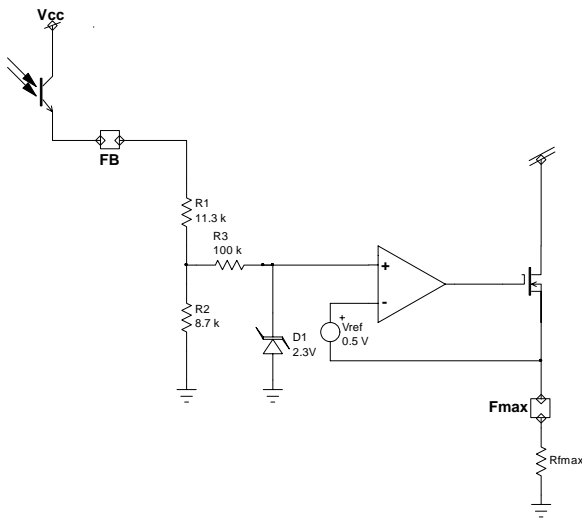

Figure 32. The OPAMP Arrangement limits the VCO modulation signal between 0.5 and 2.3V
The designer needs to program the maximum switching frequency and the minimum switching frequency. In LLC configurations, for circuits working above the resonant frequency, a high precision is required on the minimum frequency, hence the  $\pm 3\%$  specification. This minimum switching frequency is actually reached when no feedback closes the loop. It can happen during the startup sequence, a strong output transient loading or in a short-circuit condition. By installing a resistor from pin 4 to GND, the minimum frequency is set. Using the same philosophy, wiring a resistor from pin 2 to GND will set the maximum frequency excursion. To improve the circuit protection features, we have purposely created a dead zone, where the feedback loop has no action. This is typically below 1.2 V. Figure 32 details the arrangement where the internal voltage (that drives the VCO) varies between 0 and 2.3 V. However, to create this swing, the feedback pin (to which the optocoupler emitter connects), will need to swing typically between 1.2 V and 5.3 V.
As shown on figure 32, the internal dynamics of the VCO control voltage will be constrained between 0.5 V and 2.3 V, whereas the feedback loop will drive pin 6 (FB) between 1.2V and 5.3 V. If we take the default FB pin excursion numbers, 1.2 V = 50 kHz, 5.3 V = 500 kHz, then the VCO maximum slope will be  $\frac{500\text{kHz} - 50\text{kHz}}{4.1} = 109.7\text{kHz/V}$ .